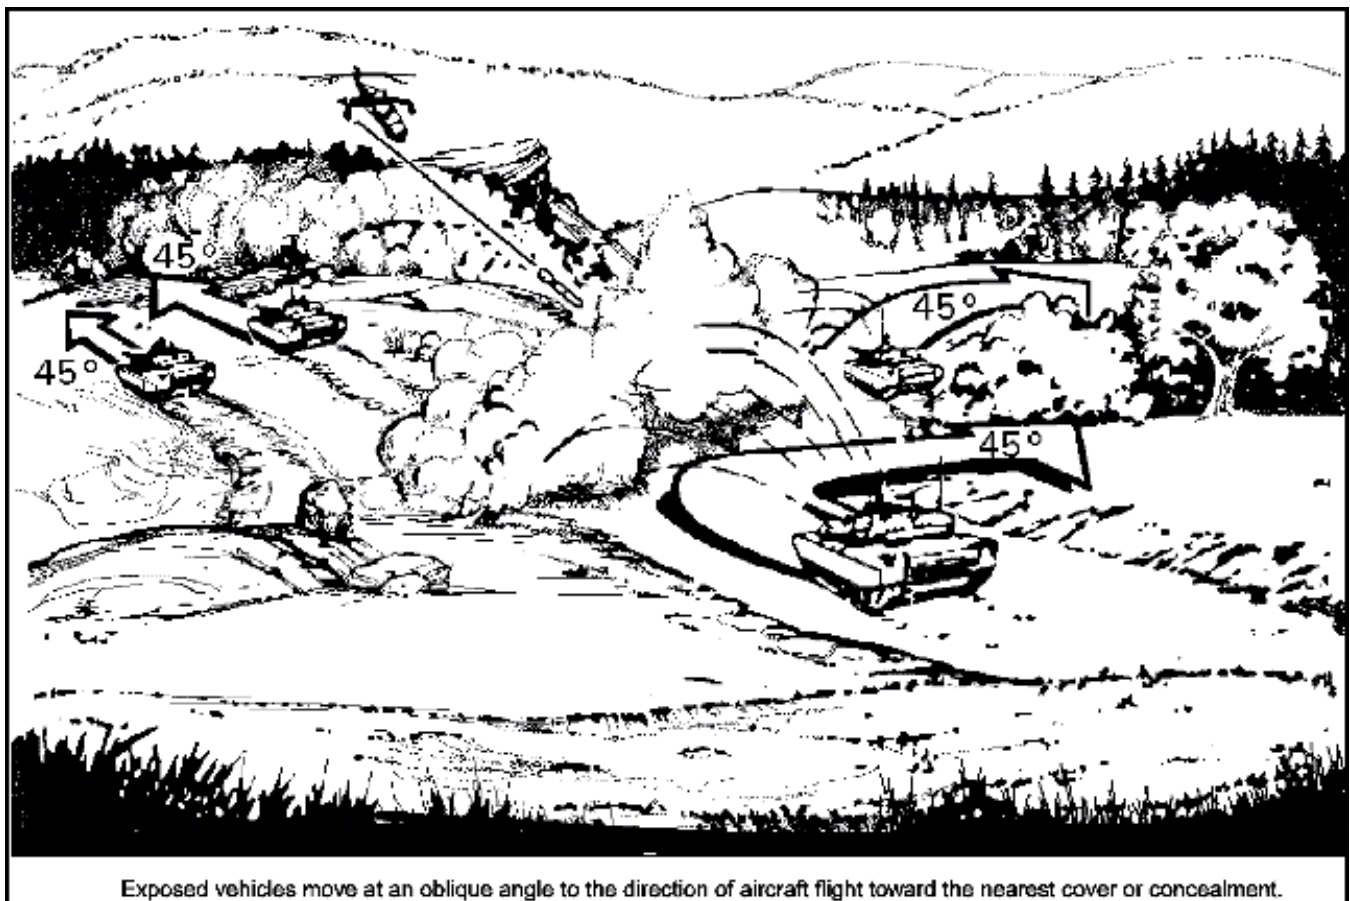

Figure 6-3. Procedures for evading enemy aircraft.
- **Step 2 - Deploy or take the appropriate actions.** If the company team is not in the direct path of an attacking aircraft, the commander or the platoon leaders order vehicles to seek cover and concealment and halt with at least a 100-meter interval between vehicles. The team also may be ordered to continue moving as part of the task force. Figure 6-3 illustrates procedures used to evade enemy aircraft.
- **Step 2 - Create a nonlinear target.** Vehicles move as fast as possible at a 45-degree angle away from the path of flight and toward attacking aircraft (as illustrated in Figure 6-3). Each platoon maintains an interval of at least 100 meters between vehicles, forcing aircraft to make several passes to engage the entire platoon.